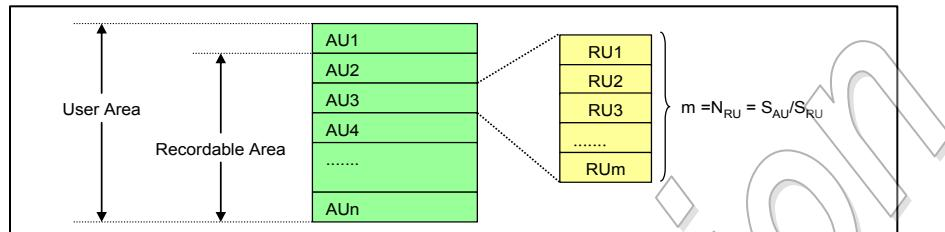

Figure 4-47 : Definition of Allocation Unit (AU)
4.13.1.1 Allocation Unit (AU)
The User Area is divided into units called "Allocation Unit (AU)" (Refer to Figure 4-47). AU is physical boundary in User Area of a card and is not defined by the file system boundary. Each card has its own fixed **AU Size (S_{AU})** and the maximum AU Size is defined depending on the card's capacity. The host
4.13.1.2 Recording Unit (RU)
Each AU is divided into units called "**Recording Unit (RU)**" (Refer to Figure 4-47). The unit of **RU Size (SRU)** is 16KByte. The RU Size is a multiple of 16KByte and shall not span across an AU boundary.